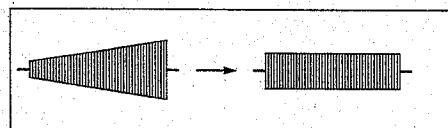

Fig. 3-2-5 PB FM
- Adjust by pressing "M+D" or "M+E" buttons of presetting unit for FM waveform is flat as shown in Fig. 3-2-5.
- Readjust by pressing "M+D" or "M+E" buttons of presetting unit for FM waveform is flat as shown in Fig. 3-2-5.
- Repeat steps (4) and (5).